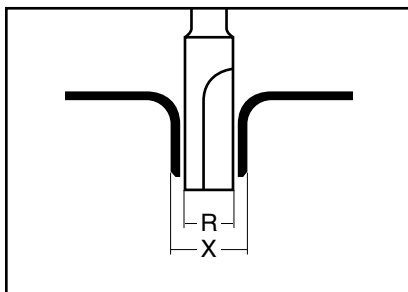
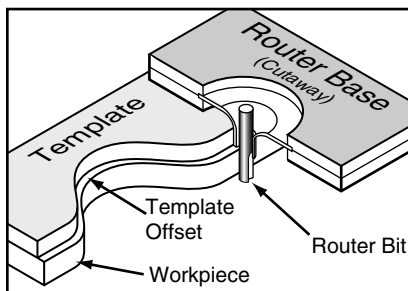

Figure 12. Calculating template offset.
Figure 13. Using the template guide.
2. Take into account the diameter of the template guide when calculating the size of the template. The diameter of the bushing (X in **Figure 12**), minus the diameter of the router bit (R), divided by 2, gives you the template offset as shown in **Figure 13**.